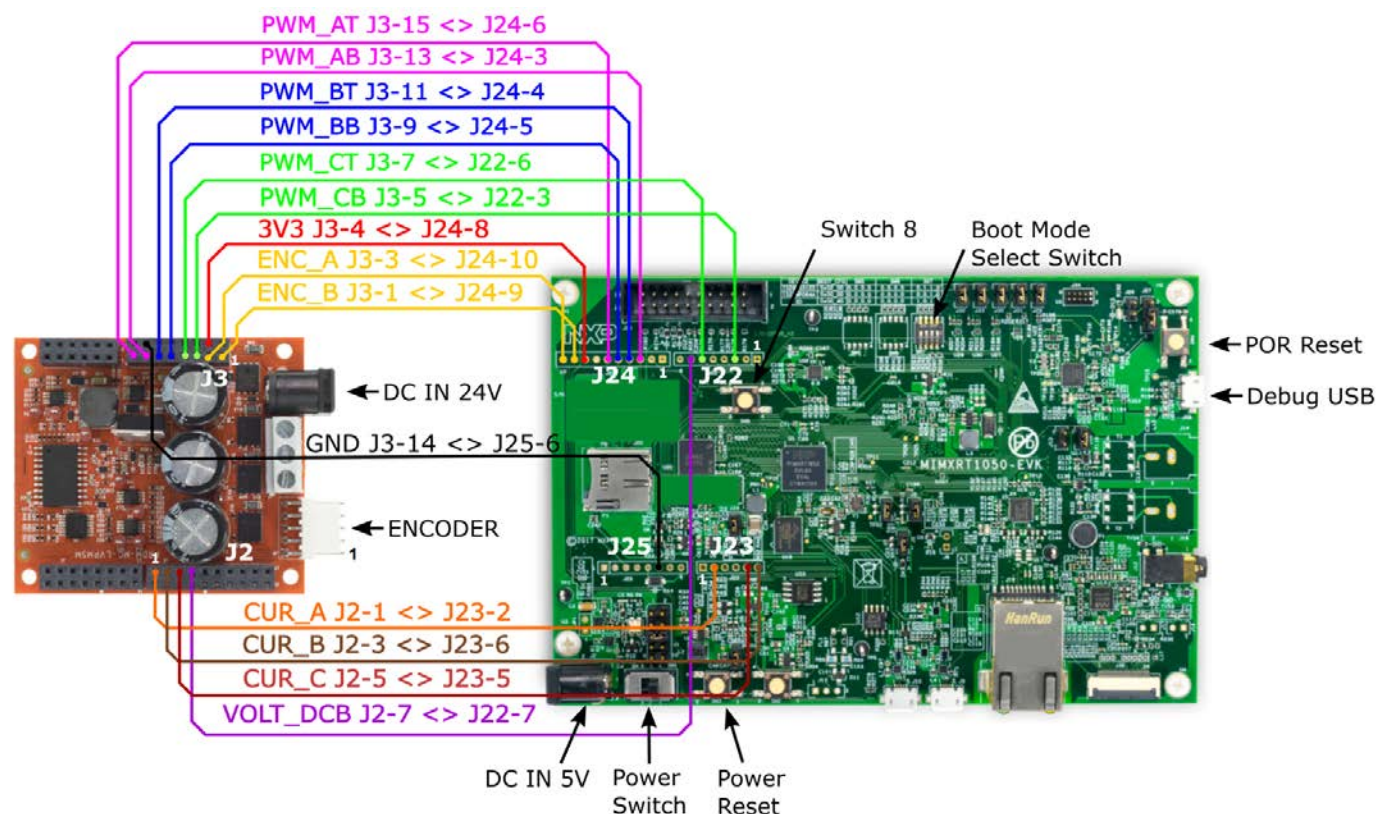

Figure 3. Interconnection diagram
1. Connect the NXP Freedom PMSM power stage and the MIMXRT1050-EVK board together by wires according to the pin assignment (Table 3) and the interconnection diagram (Figure 3).